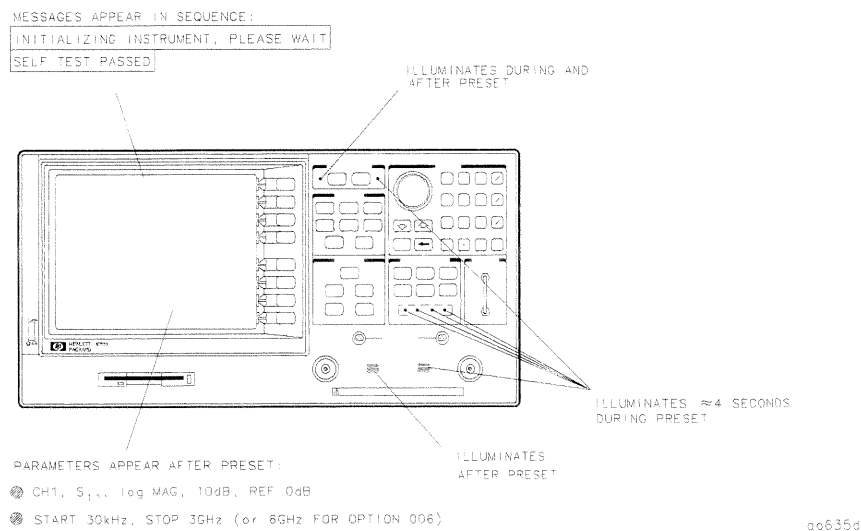

Figure 4-1. Preset Sequence
3. Watch for the indications shown in Figure 4-1 to determine if the analyzer is operating correctly.